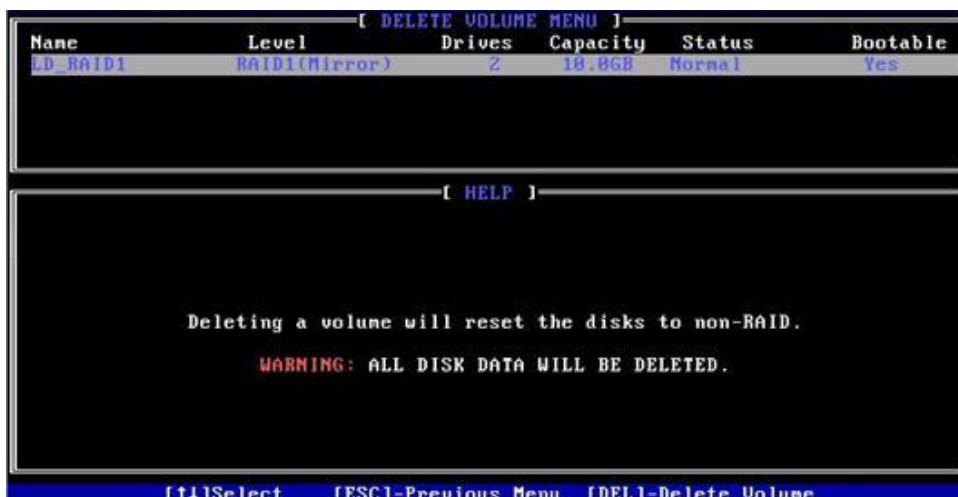

Fig. 6.24
- c) Enter the interface shown in Fig. 6.24, select the RAID to be deleted, and press Delete to complete the deletion.